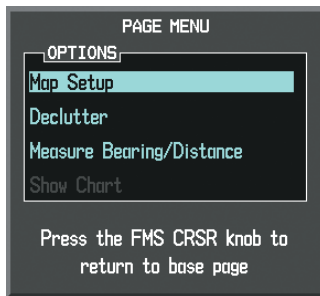

Figure 6-108 Navigation Map Page Menu
- 3) With 'Map Setup' highlighted, press the **ENT** Key (Figure 6-108).